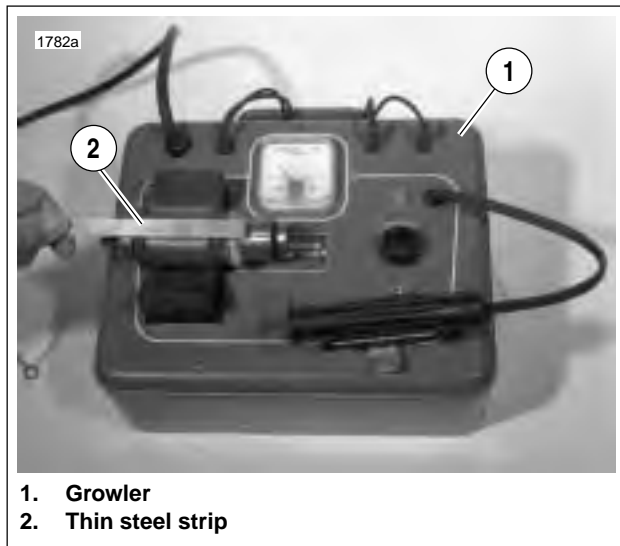

Figure 5-20. Shorted Armature Test Using Growler
9. See Figure 5-20. Check for SHORTED ARMATURE with a growler.
- a. Place armature on growler (1).
- b. Hold a thin steel strip (2) (hacksaw blade) against armature core and slowly turn armature.